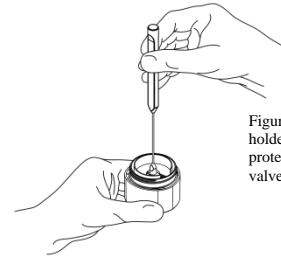

Figure 2: Screw the handle into the holder fixed to the valve, remove the protective plastic glass containing the valve from the carton.
2. Screw the handle into the holder fixed to the valve as shown in Figure 2.